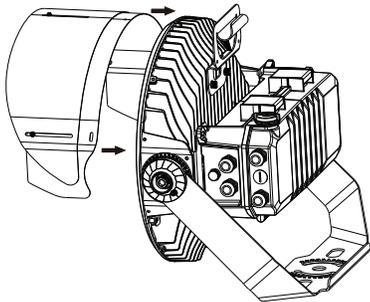

Fig. 6
1. Slide visor into place and secure with provided mounting screws (Fig. 6).